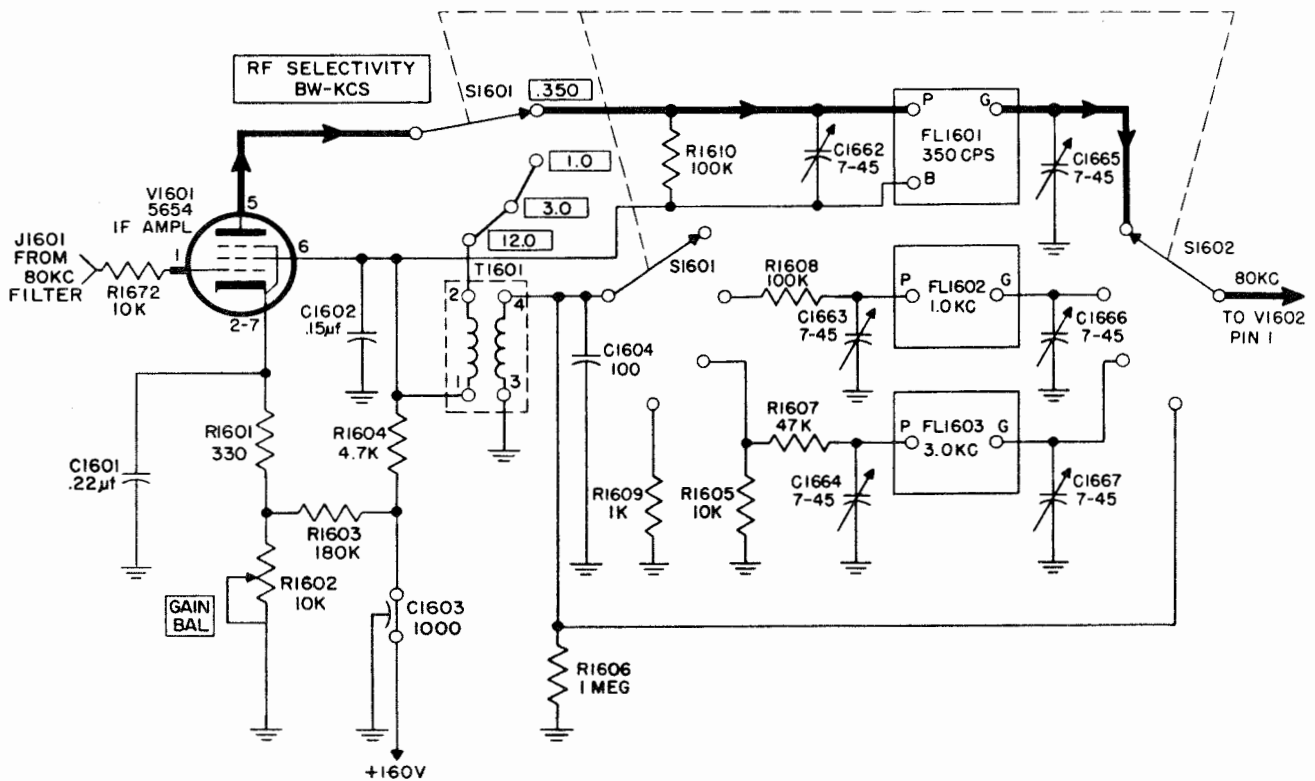

Figure 4-18. IF Amplifier V1601, Simplified Schematic Diagram
a. 80 KC IF AMPLIFIER. (See figures 4-18 and 4-19.)—The 80 kc IF amplifier has provisions for selection of four possible bandwidths—0.35 kc, 1 kc, 3 kc, and 12 kc, depending on the nature of received signals. These bandwidths are selected by the R.F. SELECTIVITY BW-KCS control. As shown in figure 4-18, the signal from the 80 kc IF filter is applied to IF amplifier V1601 through connector J1601. The gain of V1601 is controlled by GAIN BAL potentiometer R1602, which supplies a fixed bias voltage to the amplifier cathode. The RF SELECTIVITY BW-KCS con-